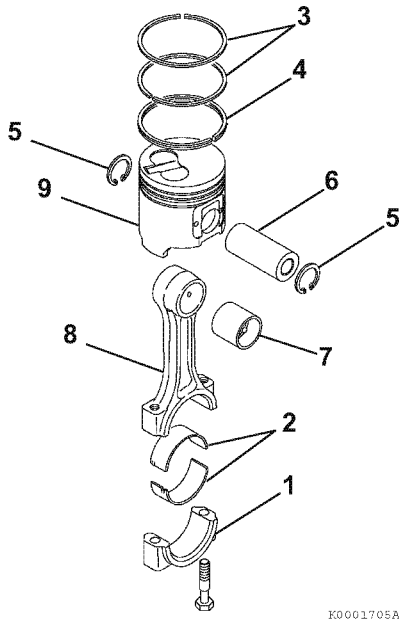

Figure 6-86
5. Lubricate and install the wrist pin (**Figure 6-86, (6)**) through the piston and connecting rod.
6. Reinstall the second circlip (**Figure 6-86, (5)**) and ensure it is securely seated in the groove.